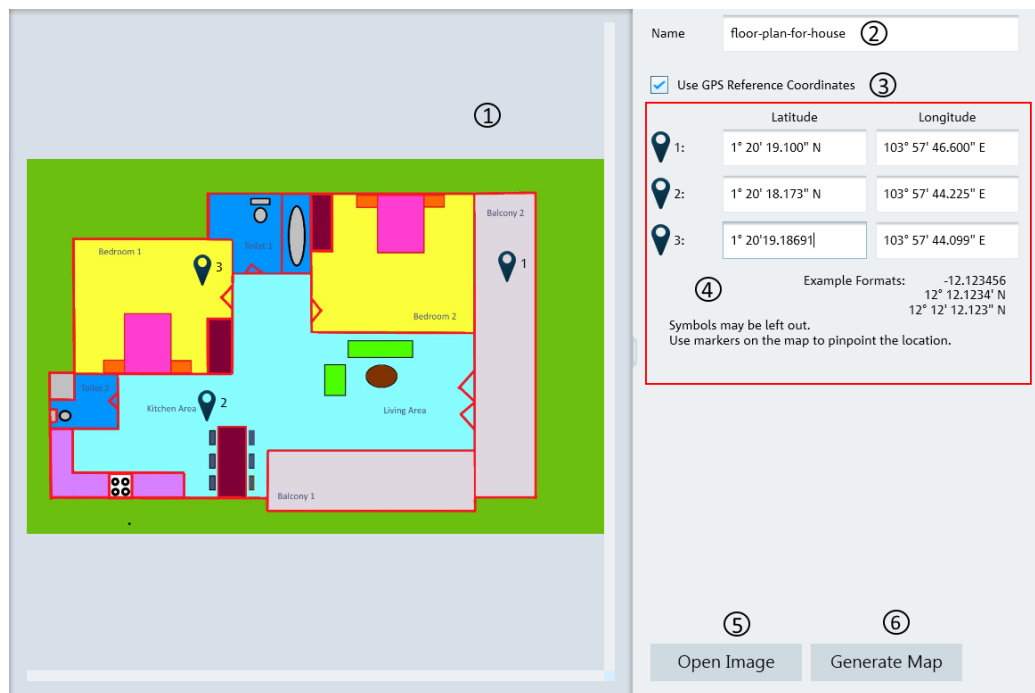

Figure 5-35: Map creator dialog box
the entry field (see item 4 of Figure 5-35) . With a GPS referenced map, it provides the following useful features: